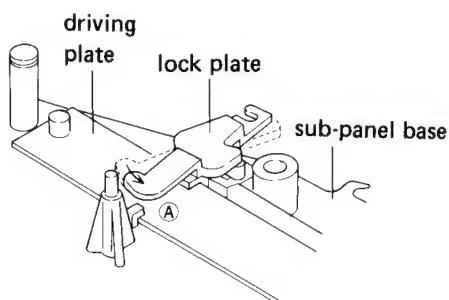

Fig. 7-6 Cam assembly attachment
The cam assembly is attached by letting the lock plate go in the direction ① as shown in figure 7-6.